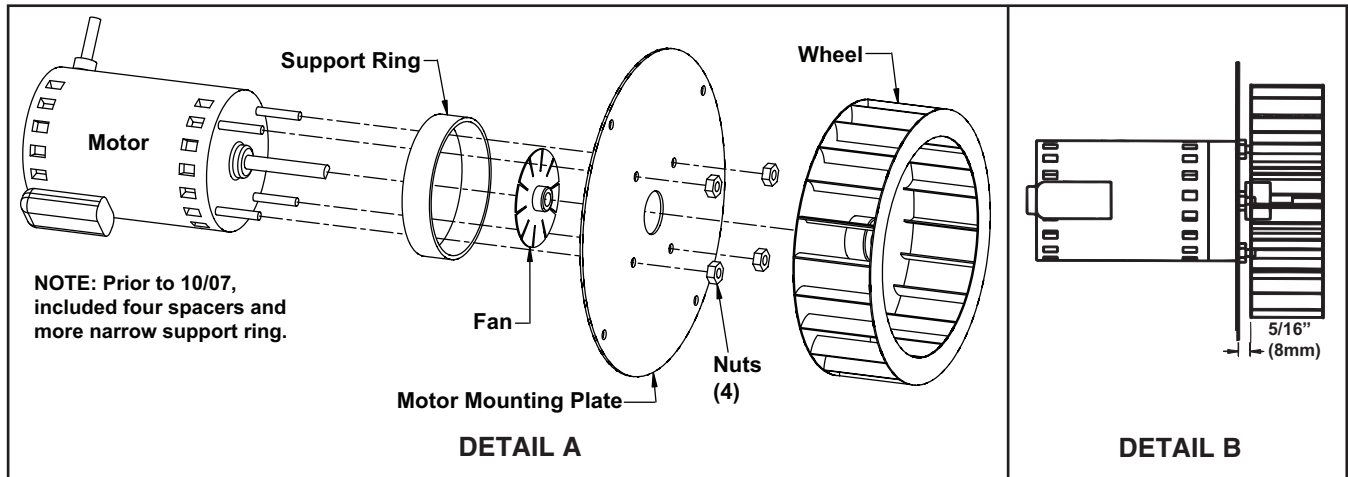

Figure 33. Venter Motor and Wheel Assembly
- e. Disassemble motor and wheel assembly (see Figure 33, DETAIL A):
- (1) Using hex allen wrench, loosen venter wheel setscrew and slide venter wheel off shaft.
- (2) Remove four nuts that secure motor mounting plate and remove mounting plate.
- (3) Each bolt has cylindrical spacer. Remove four spacers and remove support ring.
- (4) Loosen setscrew and remove small fan blade.
- (1) Check motor mounting plate gasket and replace if deteriorated or torn.
- (2) With blade side closest to motor (hub away from motor), slide small fan blade onto shaft. Position blade so that it does not hit motor and tighten setscrew to flat side of motor shaft.
- (3) Install spacer over each bolt and slide motor support ring over all bolts. Position mounting plate with gasket side away from motor and secure plate using nuts (hand-tighten using nut driver—do not use power tool).
- (4) Rotate fan to check for clearance. If required, loosen setscrew and adjust position of fan blade.
- (5) Slide venter wheel over end of shaft with closed side toward motor. Position wheel with spacing shown in Figure 33, DETAIL B and tighten setscrew to flat side of motor shaft.
- (6) Check for proper balance. If wheel is damaged or does not turn properly, replace it.